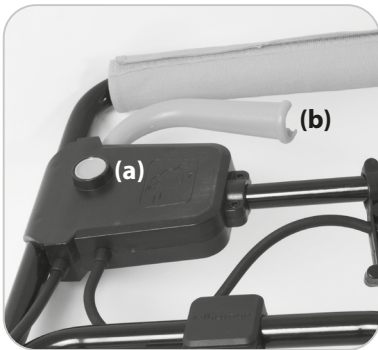

Fig. 12
- Press the safety lock button (a) and pull the switch lever (b) to start the machine. (**Fig. 12**)